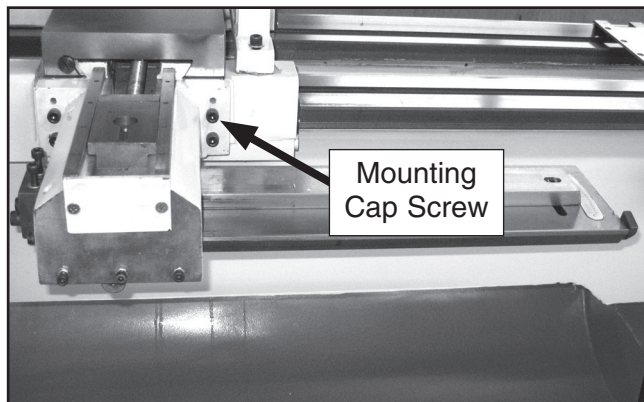

Figure 12. Taper attachment installation.
- With the help of an assistant, raise and align the taper attachment assembly, so the pivot pin slides into the pin bore in the slide block (**Figure 12**).
- With your assistant aligning the taper attachment mounting holes, use an 8mm hex wrench to secure the taper attachment to the carriage face (**Figure 12**).